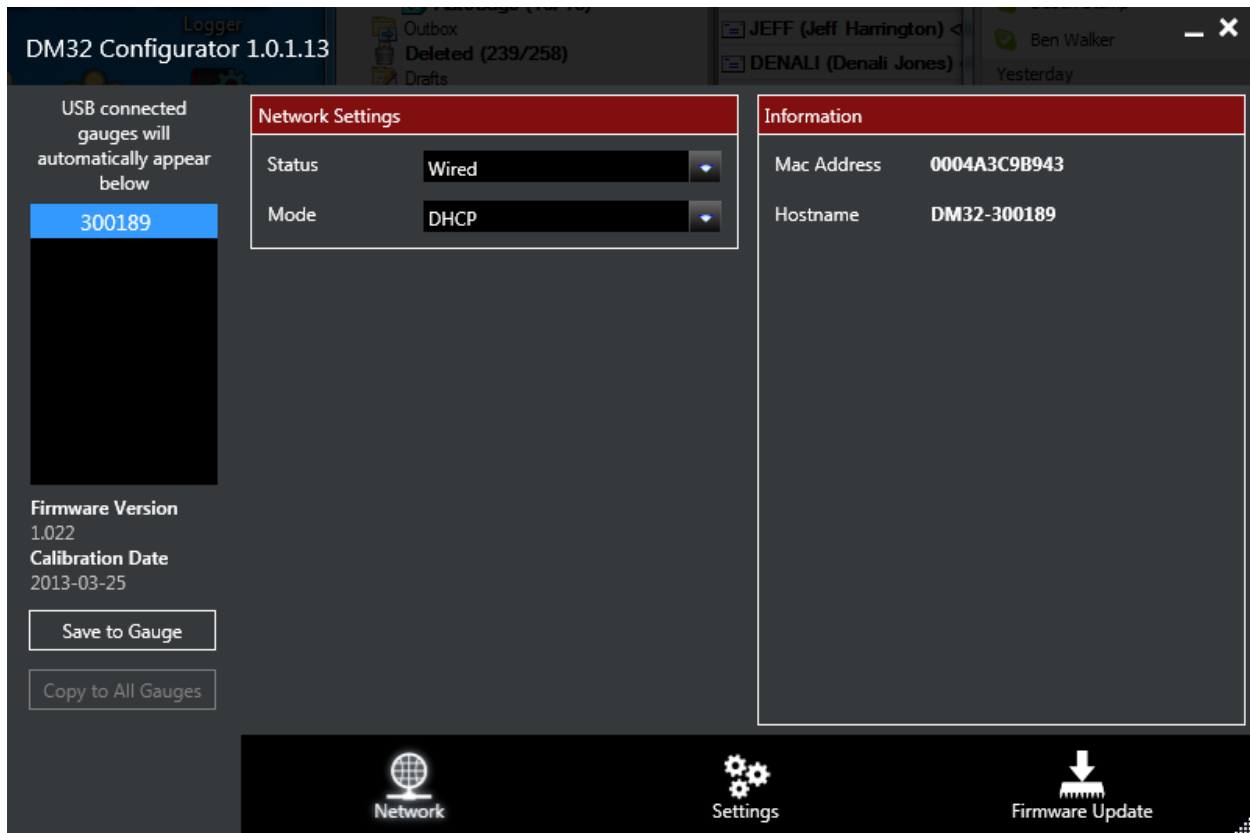

Figure 15: Wired network with a router uses DHCP mode
5. Click on the “Network” tab (one of the keys along the bottom), screen should look like Figure 15
7. Select “DHCP” from the dropdown called “Mode” as shown in Figure 15.